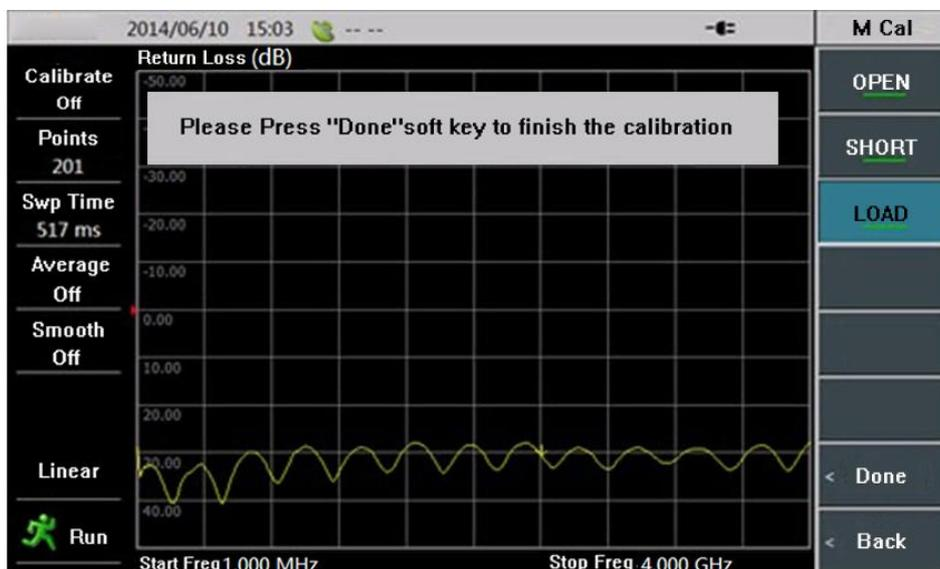

Figure 3.3 Complete Mechanical Calibration
- 5) Disconnect the short standard with the calibration port, connect the load, and press [Load] key, then the screen will prompt “[LOAD] Measuring...”. After completing the load measurement, the [Load] item on the right side of the menu bar is underlined as [Load], and the prompt message saying “Please Press “Done” soft key to finish the calibration” is popped up on the display screen as shown in Figure 3.3. Then press the [Done] key to complete the calibration.